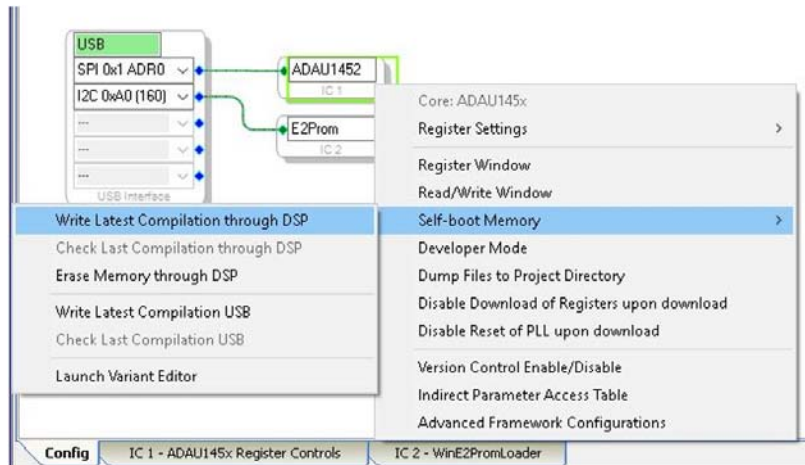

Figure 70. ADAU1452 Block Pull-Down Menu
7. To write to the EEPROM through the ADAU1452 master SPI port, right-click the white space in the **IC1** block in the **Hardware Configuration** tab. From the pull-down menu that appears, select the **Self-boot Memory > Write Latest Compilation through DSP** option (see Figure 70).